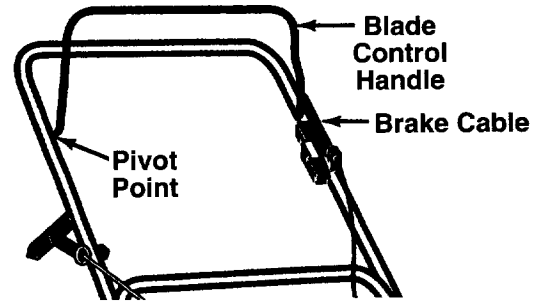

FIGURE 10.
**Blade Control**—Lubricate the pivot points on the blade control handle and the brake cable at least once a season with light oil. See figure 10. The blade control must operate freely in both directions.